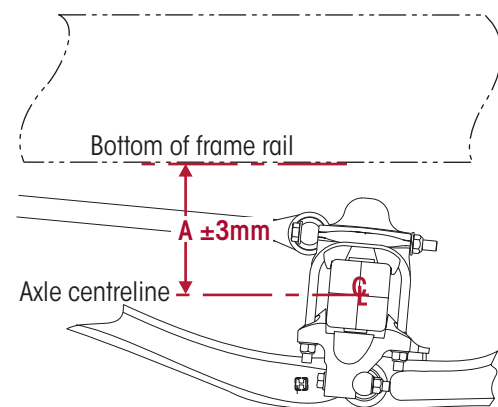

Figure 45: Ride Height Measurement (within ± 3 mm)
4. Find the vehicle manufacturer's ride height specification. This can be obtained from the vehicle manufacturer, vehicle handbook or suspension label. If these are unavailable, current vehicle ride height may be used as a reference. Ride height is measured from the underside of the chassis frame rail to the centre of the axle that has the height control valve attached. Check the height at each HCV location if equipped with dual height control valves. Refer to "Simple Ride Height Check" on page 23 and Figure 45.